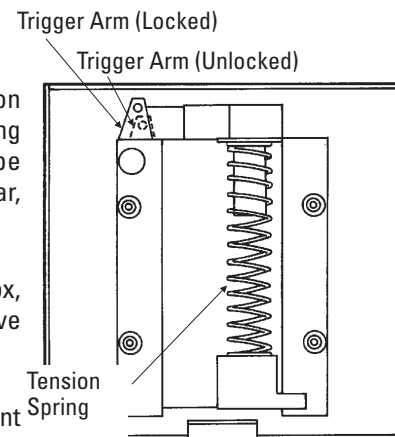

Figure 3-15:
- 2 Holding the lid as shown in Figure 3-15, insert a ballpoint pen or very small screwdriver into the hole in the trigger arm and slide it first to the right, then down. (The trigger arm should move about a quarter of an inch and remain in the unlocked position.)